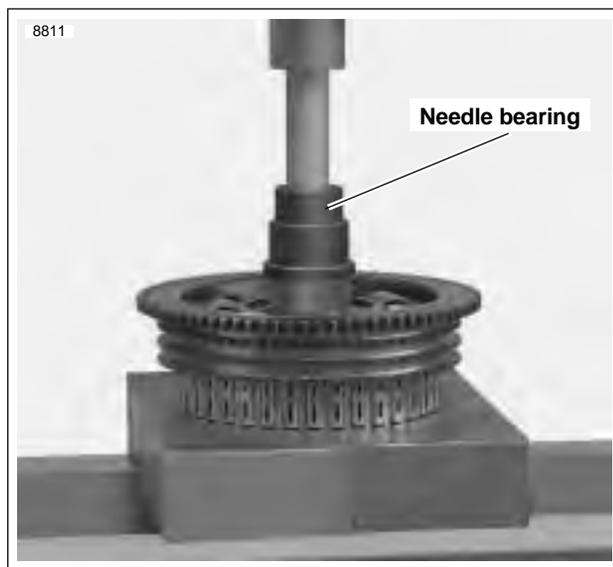

Figure 6-31. Installing Clutch Shell Needle Bearing Clutch Shell Bearing Remover/Installer B-45926
5. See Figure 6-31. Place clutch shell on support blocks with sprocket side facing up.